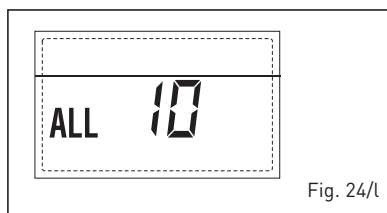

Fig. 24/l
- **ANOMALIA MODULATORE "ALL 11" (fig. 24/m)**